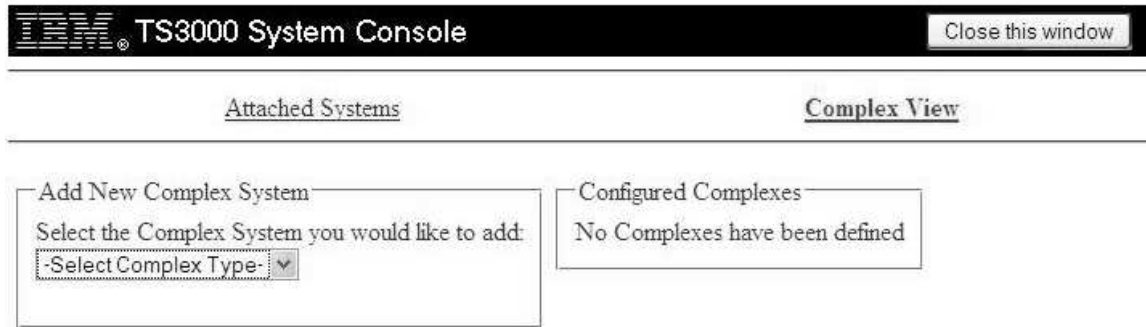

Figure 67. Complex System Screen.
- Select the type of Complex System you are adding from the drop down list, as shown in Figure 67 on page 55.